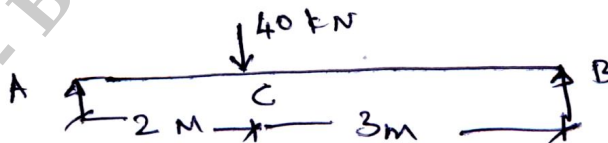

Fig.Q6(b)
b. Find the maximum slope and deflection for the beam shown in Fig.Q6(b) by conjugate beam method. Take $EI = 10.2 \times 10^3 \text{ kN.m}^2$.